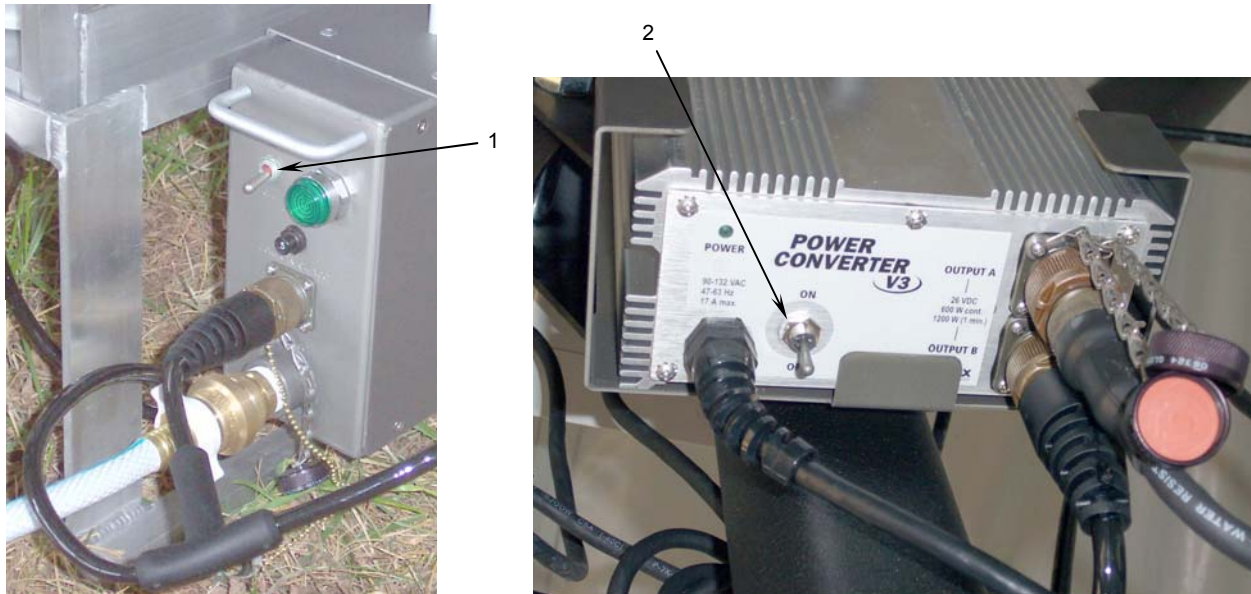

Figure 30. Shutting Down the FSC Equipment.
- h. Switch off the sink fill pump assembly power switch (**Figure 30, Item 1**).
- i. Switch off the power converter power switch (**Figure 30, Item 2**).